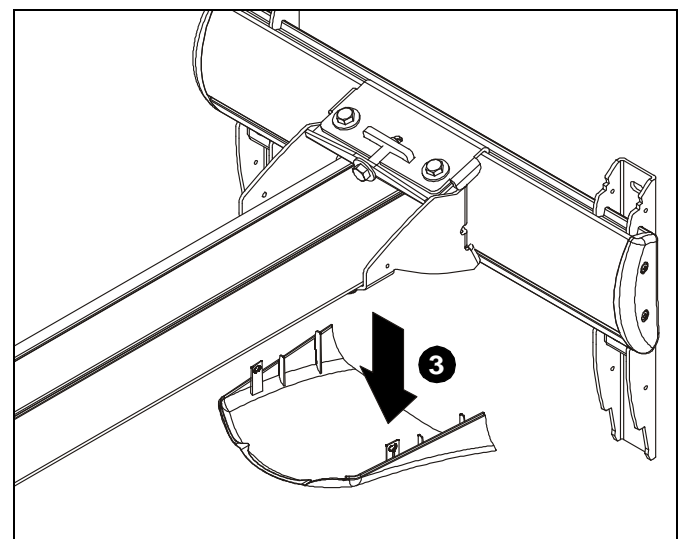

Figure 54
3. Remove lower cover from mount. (See Figure 54)